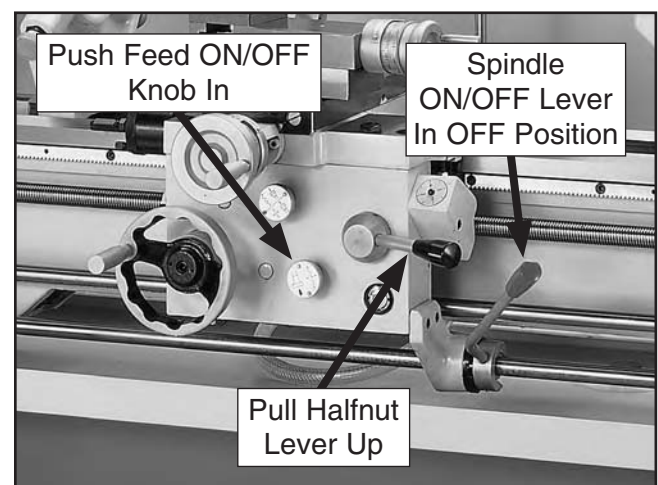

Figure 22. Halfnut lever, feed ON/OFF knob, and spindle ON/OFF lever.
8. To further ensure the carriage does not move during the test run, push the feed ON/OFF knob in to disengage the carriage from the feedrod, then pull the halfnut lever up to disengage the carriage from the leadscrew (see **Figure 22**).